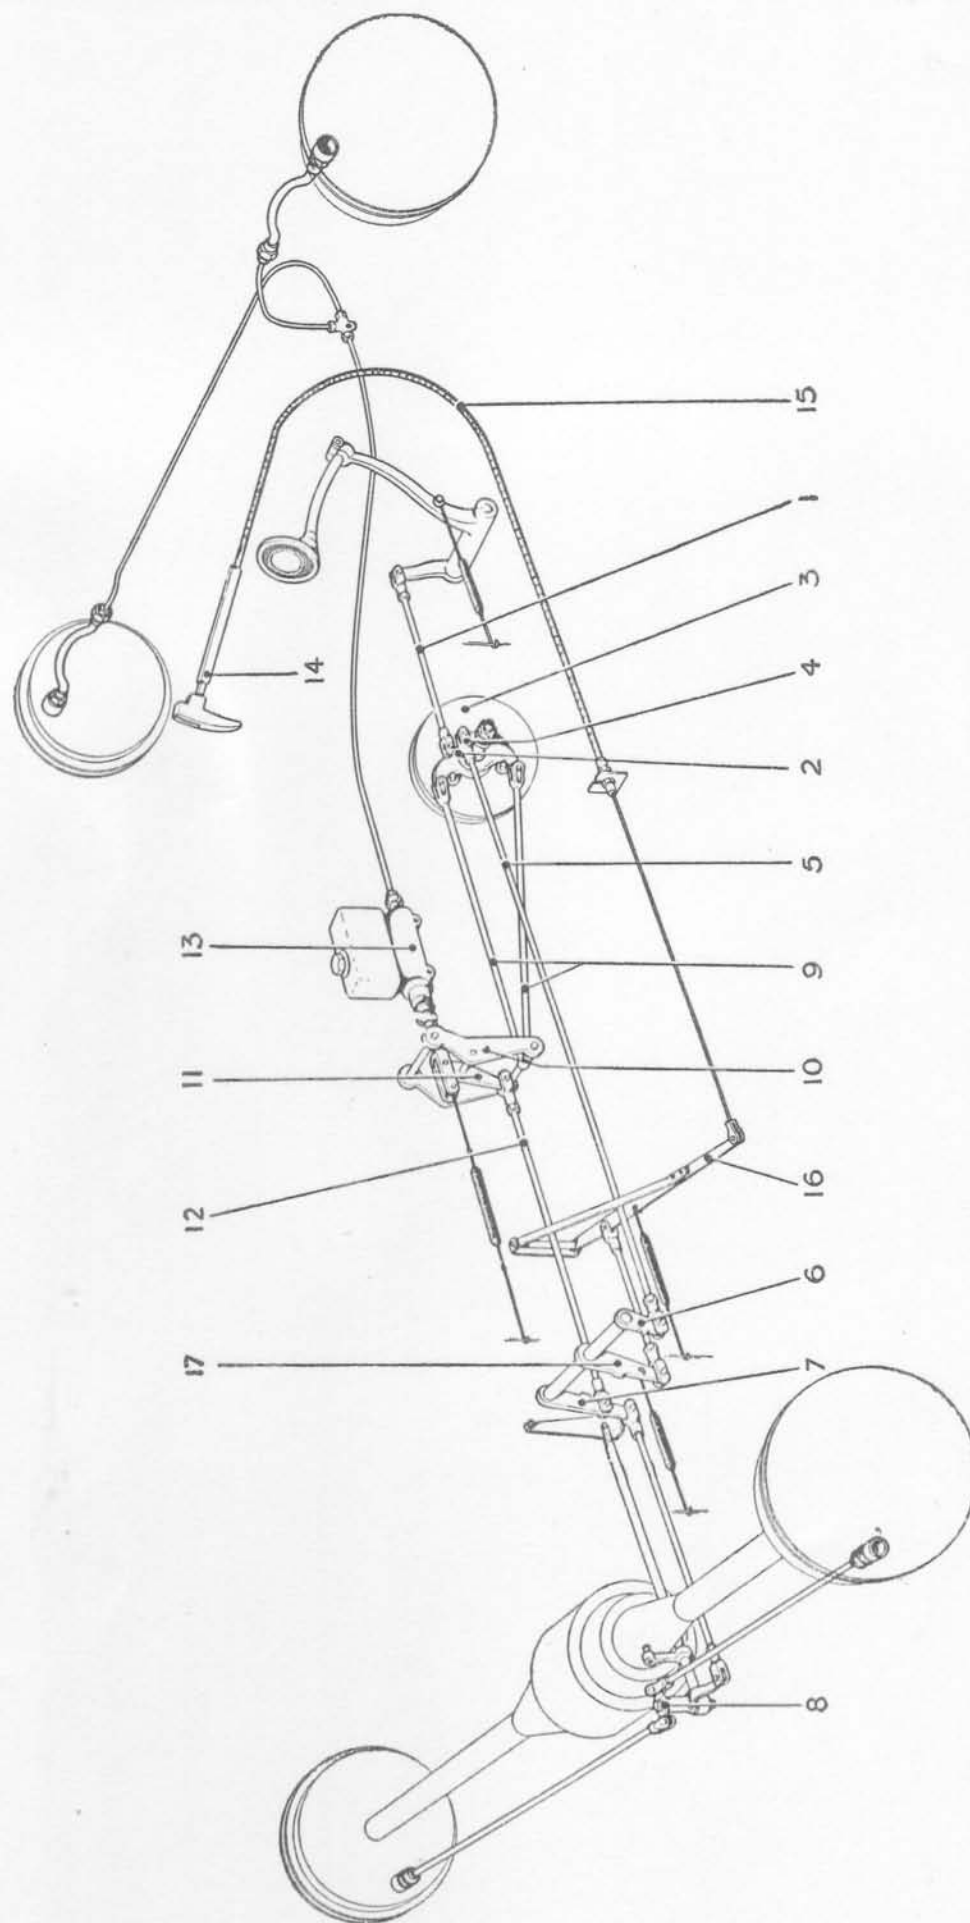
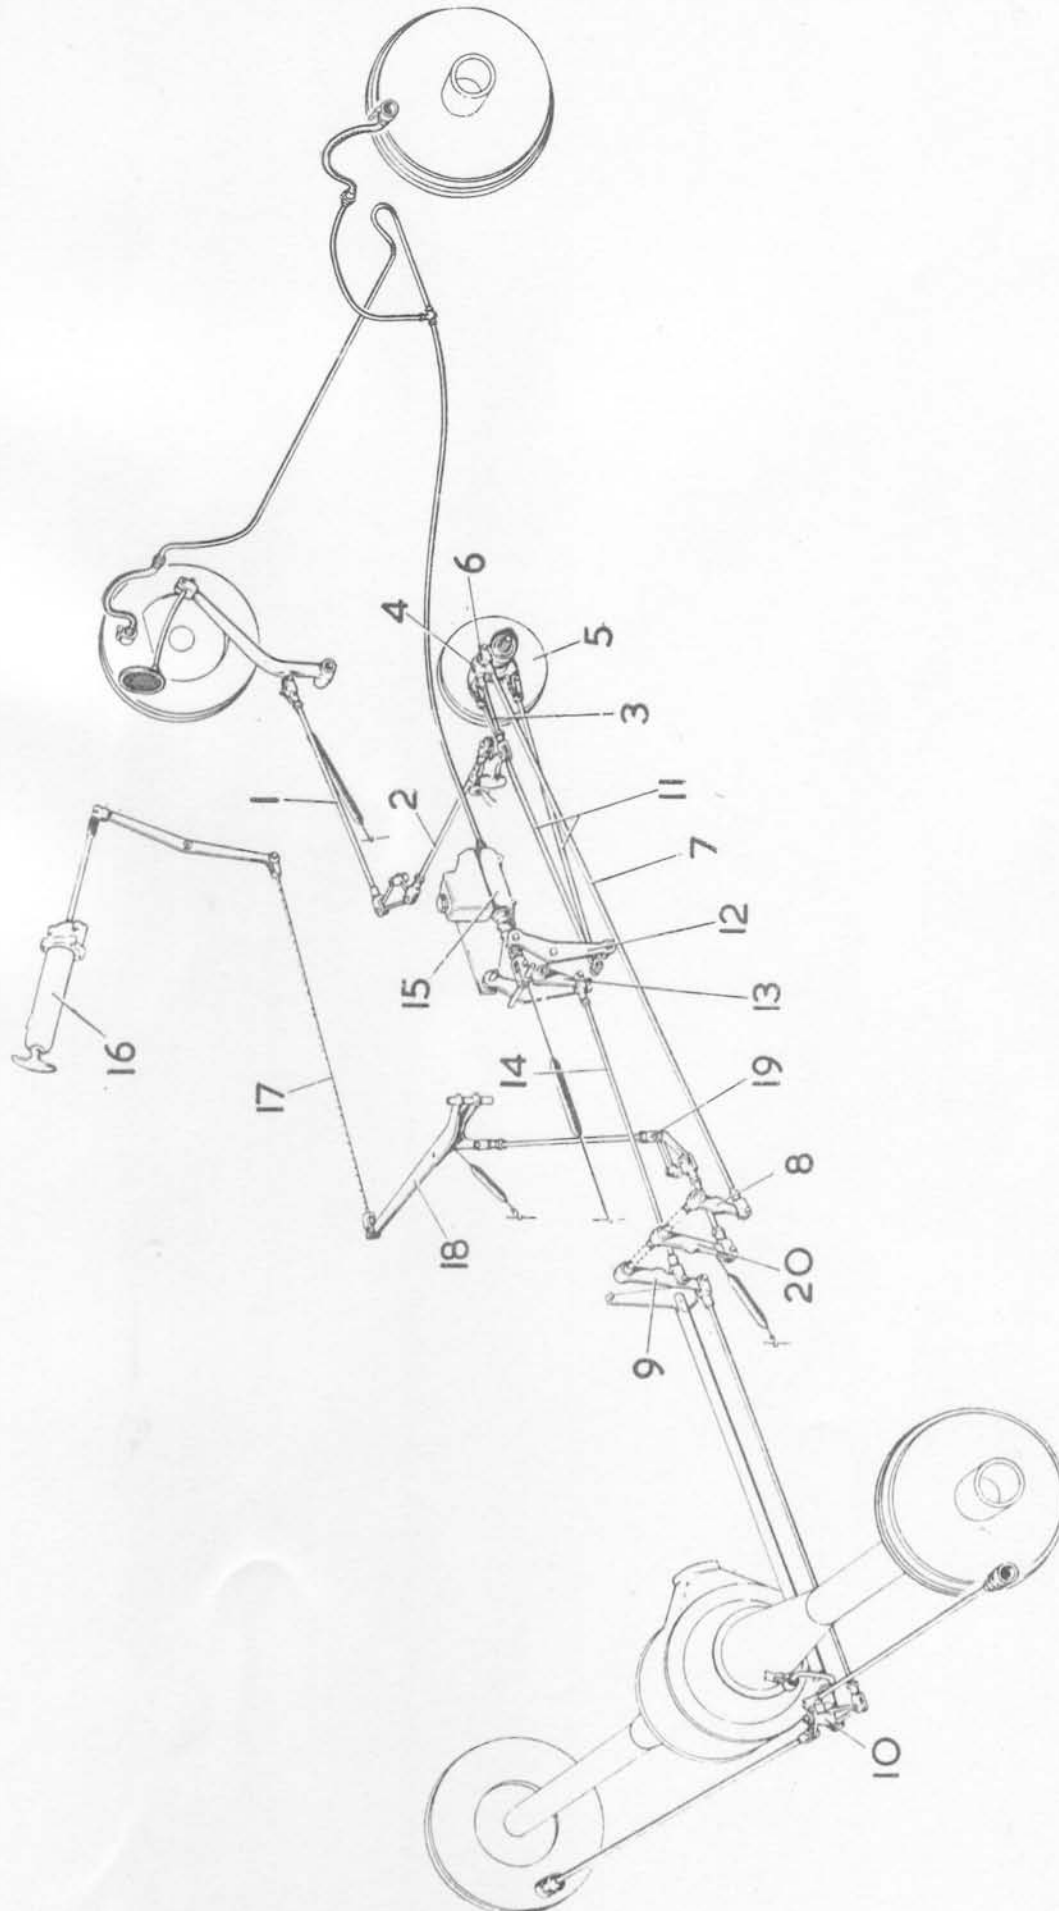

Fig. 16.—DIAGRAM OF BENTLEY BRAKING SYSTEM.—RIGHT-HAND MODEL.
Fig. 17.—DIAGRAM OF BENTLEY BRAKING SYSTEM—LEFT-HAND MODEL.
Diagrammatic representations of the braking systems for both the right-hand and left-hand models are shown in Figs. 16 and 17.
A pull rod (1, Fig. 16), operated by the pedal, is coupled to a lever (2), on the servo motor shaft, the motor itself (3) being mounted on the off-side of the gearbox, and driven at approximately one-tenth of the propeller shaft speed.
A pull rod (1, Fig. 17), operated by the pedal, is coupled via the cross rod (2), and the rod (3), to a lever (4) on the servo motor shaft, the motor itself (5) being mounted on the right-hand side of the gearbox, and driven at approximately one-tenth of the propeller shaft speed.
The servo is of the dry disc-brake type, and is shown in Figs. 16 and 17. An adjustment is provided for the initial setting and wear of the friction surfaces, but once correctly set, should require no further attention for a considerable period, as very little wear occurs. As the operation is of a delicate nature it is advised that this adjustment should be effected by Messrs. Bentley Motors (1931) Ltd., or one of their "Special Retailers".
The only points that require attention are the jaws and pins of the pull rods and intermediate levers (6, 7 and 17, Fig. 16, or 8, 9 and 20, Fig. 17). Oil should be applied to these points every 5,000 miles, as directed on page 33. The ball bearing cams which actuate the servo (as described earlier in this chapter) are filled with lubricant upon initial build, and require no attention between overhauls of the chassis.